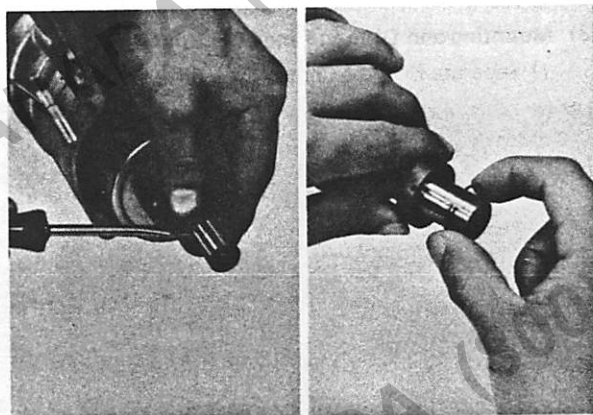

Fig. 22-11 22-068 22-069
Push the pin into the hole (or slot) or Stopper (Fig. 22-11 (A)) and take out the clip (Fig. 22-11 (B)).